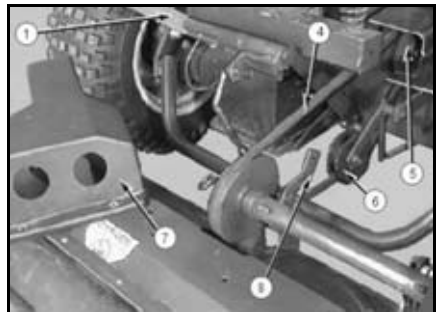
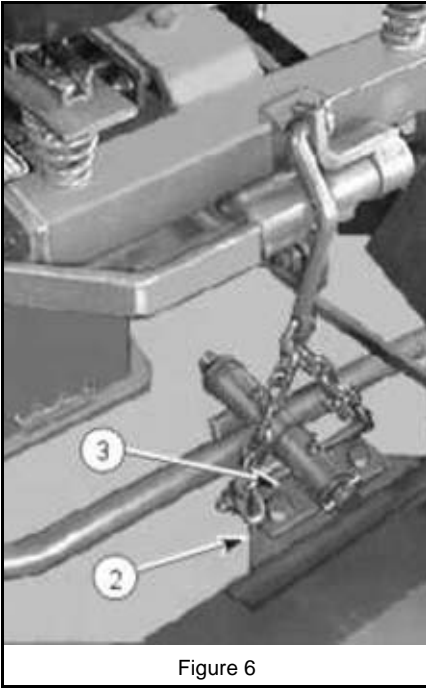

Figure 5
Figure 6
1. Remove rear mower from crate and position behind tractor as shown in Figure 5.
2. Pivot rear mower lifter handle (1, Figure 5) up and back to lower rear mower pull plate on the pull yoke. Position mounting flange (2, Figure 6) on the center front of the rear mower frame under the pull plate (3, Figure 6) and fasten securely with two fasteners already installed in pull plate.
3. Install V-belt (4, Figure 5) onto double groove pulley (5, Figure 5) located on the right rear side of the frame. Raise rear mower belt idler (6, Figure 5), and run V-belt under idler pulley as shown.
4. Position rear mower clutch guard (7, Figure 5) over rear mower shaft and pulley area, and fasten right side to support (8, Figure 5) with a 1/4"-20 x 1/2" round-head slotted screw. Secure rear flange of guard with (2) 1/4"-20 x 1/2" hex head cap screws, lock washers, and nuts.